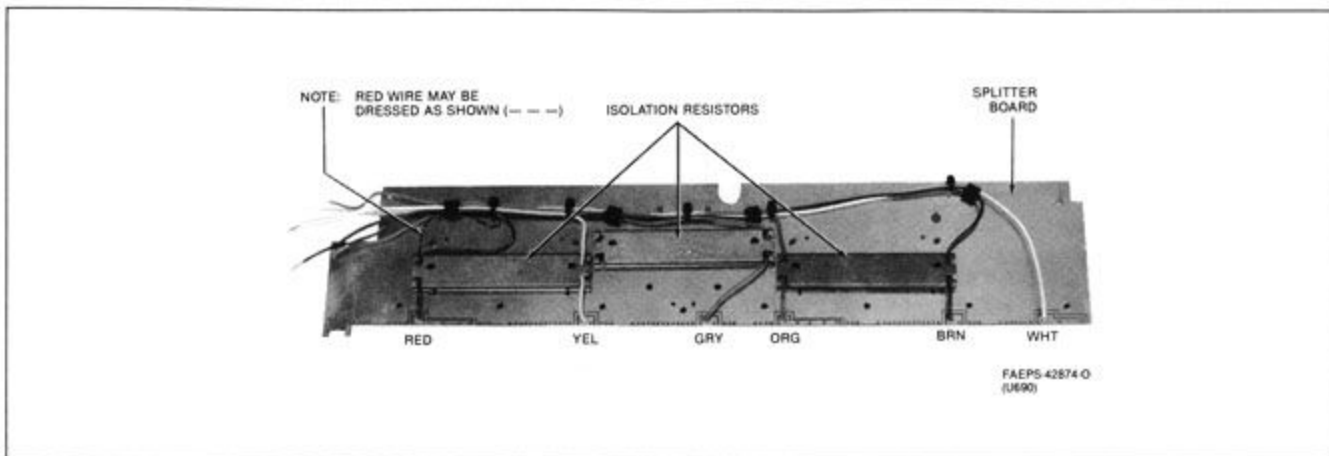

Figure 5. Splitter Board Wiring Harness Dress
Step 1. Properly dress all dc feed wires in their harnesses and route individual wires through isolation resistor brackets where required. Refer to Figure 5.
Step 4. If isolation resistor is under the splitter board, properly dress dc feed wires through isolation resistor brackets as required (refer to Figure 5).